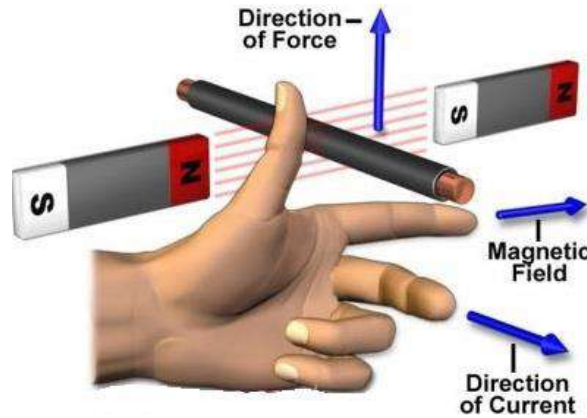

Figure.2.2. Flemings left hand rule.
2.1.2. Fleming's left hand rule. If we stretch the first finger, second finger and thumb of our left hand to be perpendicular to each other, the direction of magnetic field is represented by the first finger, direction of the current is represented by the second finger, and the thumb represents direction of the force experienced by the current carrying conductor is as shown in the figure 2.2.